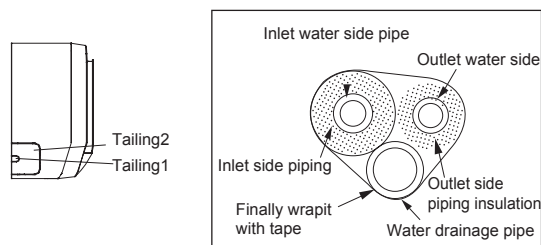

Fig.7
(1) When routing the piping and wiring from the left or right side of indoor unit, cut off the tailings from the chassis in necessary(Show in Fig.7)